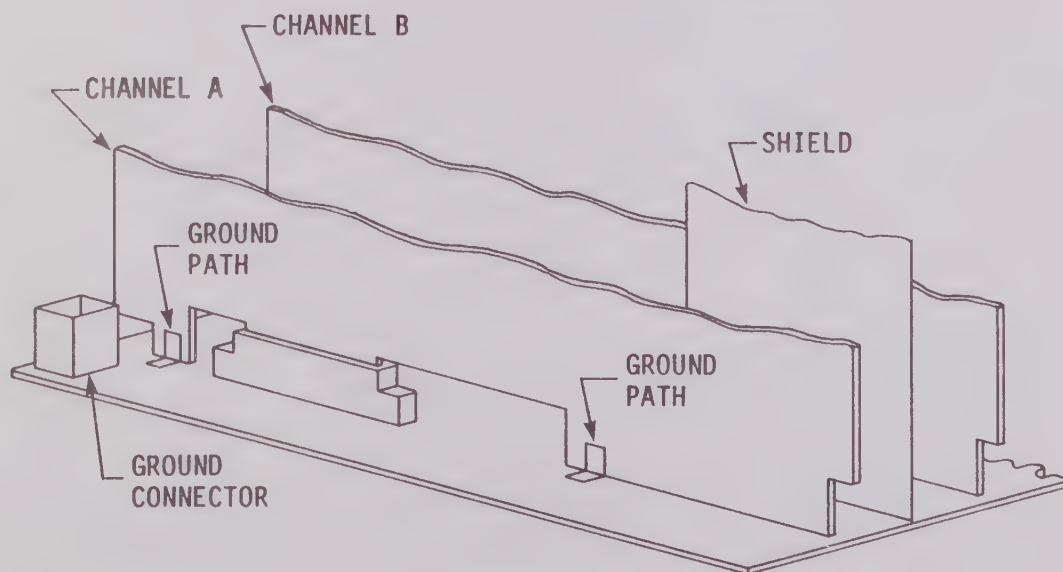

Figure 1-1
- 1.2.2. Unplug the Ground Connector, (Figure 1-1).